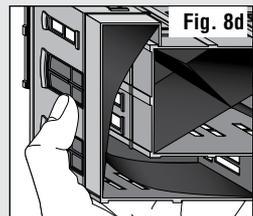

Fig. 8d
- Insert into Building Add-On (**Fig. 8d**).